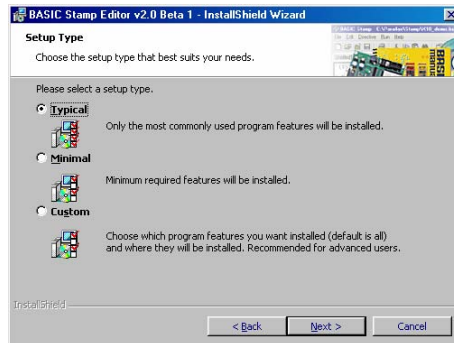

Figure 1-15
- √ Select Typical for your setup type as shown in Figure 1-15.